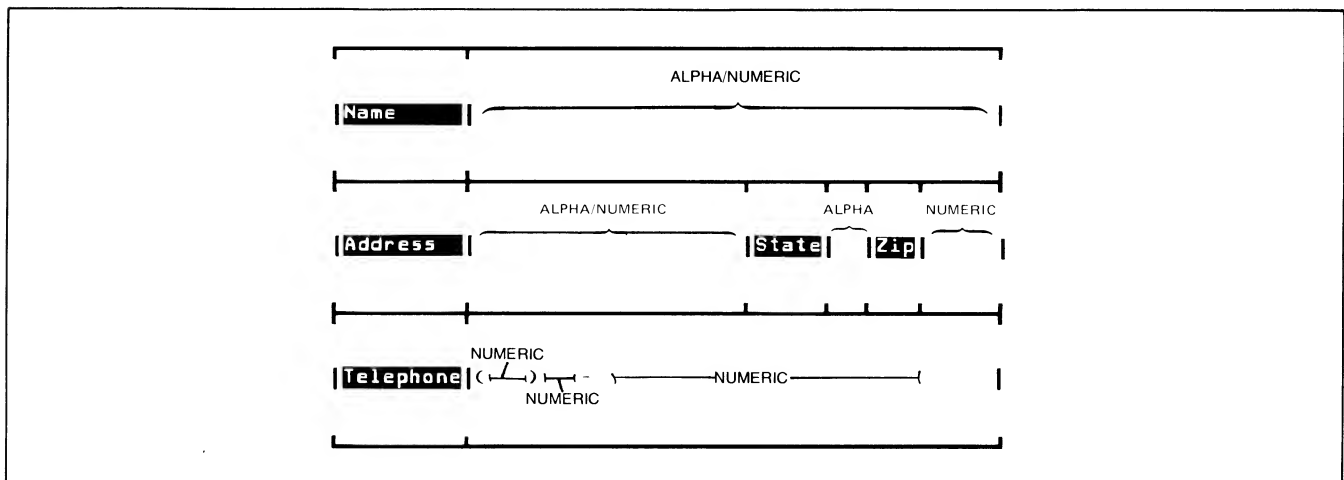

Figure A-7. Building a Form — Phase 3
- 3. Move the cursor to the beginning of each of the remaining unprotected fields, and define each as ALPHA, NUMERIC, ALPHANUMERIC, or undefined, as applicable. Figure A-7 shows the definition of each field.